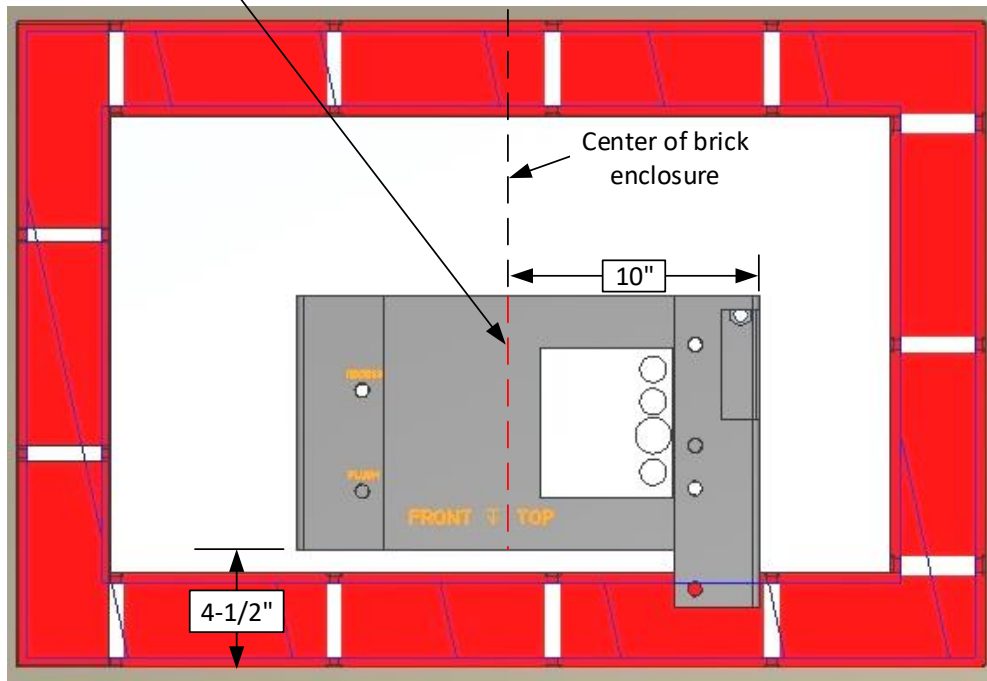

Figure 19. Positioning the Adaptor Plate
5. Sink the adaptor plate with anchor bolts into the wet concrete, until the top of the adapter plate is 35" from the road surface. Position the adaptor plate 4½" back from the front edge of the brick, and center the mark on the adapter plate created in step 1 above with the inside of the brick enclosure, as shown in Figure 19. Level the adaptor plate while the concrete is still wet.